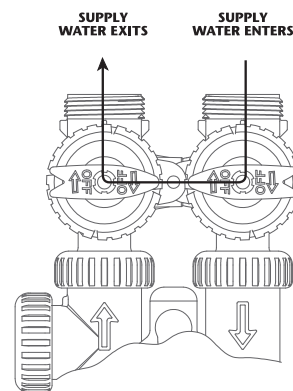

Figure 2
2. **BYPASS POSITION:** The inlet and outlet handles point to the center of the bypass. The system is isolated from the water pressure in the plumbing system. Untreated water is supplied to the building (**Fig. 2**).
- After installation is complete, rotate bypass handles to bypass mode (*see Fig. 2 on page 4*).